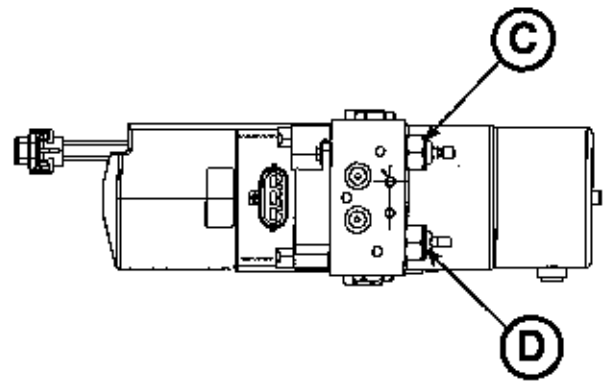

Figure 57
6. Using a 7/8" combination wrench, remove the valve (C or D) to be replaced (Figure 57).